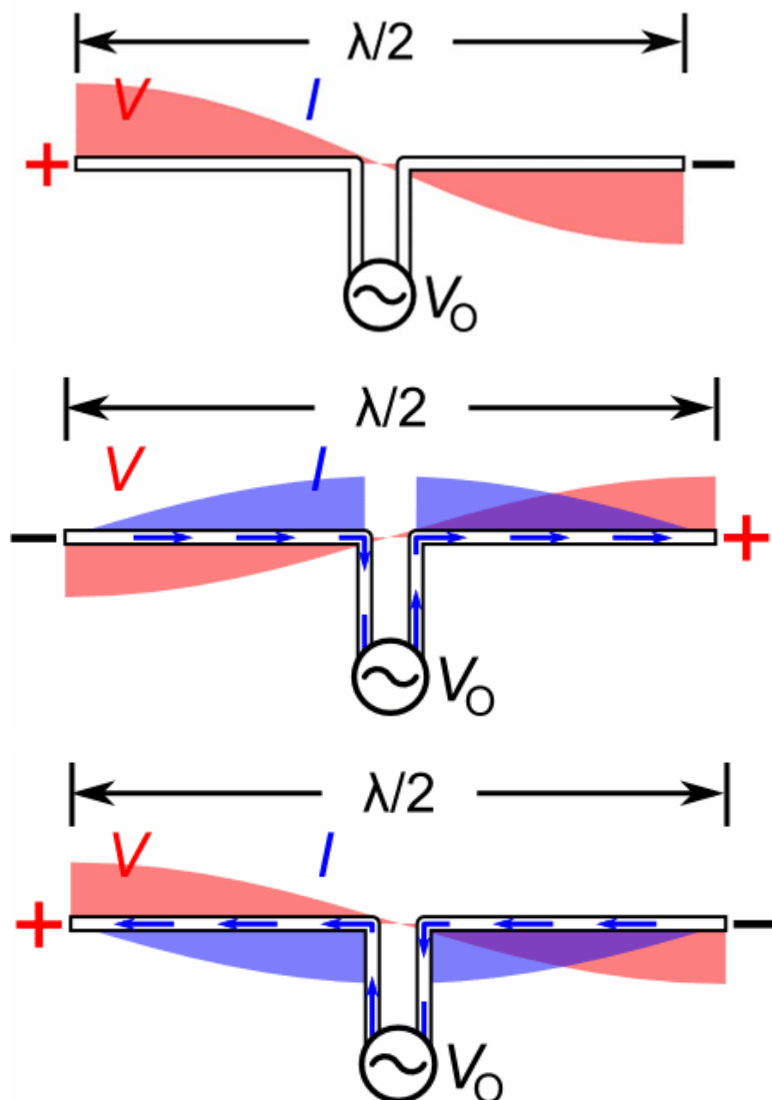

Figure 18: Propagation occurs when a half wave dipole is driven at its resonant frequency to create standing waves.
Figure 18 shows an example of a standing wave on a half wave dipole being driven at its resonant frequency. The waves are shown graphically by bars of color (red for voltage (V) and blue for current (I)) whose width is proportional to the amplitude of the quantity at that point on the antenna.